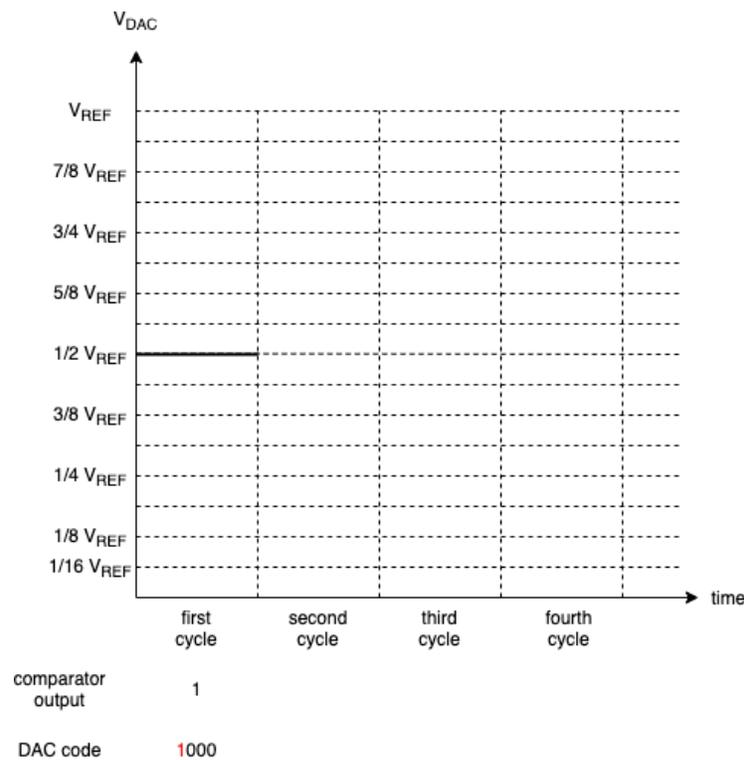

Figure 9: SAR ADC V_{DAC} timing diagram
- Plot the output voltage of the DAC in the timing diagram in Figure 9.